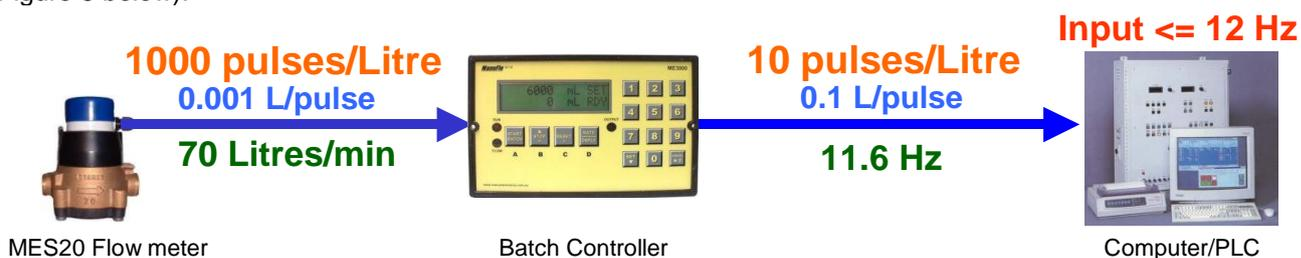

Figure 5. Pulse Scaling Example
- the ME3000 parameter *Output Pulse* must be scaled appropriately so that the pulse rate to the computer does not exceed 15 Hz (less than 12 Hz is desirable) e.g. MES20 flowmeter gives 1000 pulses/Litre, and has a maximum flowrate of 70 Litres/min or 1.16 Litres/second. So, at maximum flow, pulses produced are 1.16 Litres/sec x 1000 pulses/Litre = 1166 pulses/sec or 1166 Hz, which is much too high. Consequently, output pulses from the ME3000 must be scaled to 0.100 Litres/pulse (i.e. 10 pulses/Litre), so that the maximum output pulse rate becomes 1.16 Litres/sec x 10 pulses/Litre = 11.6 Hz (see Figure 5 below).